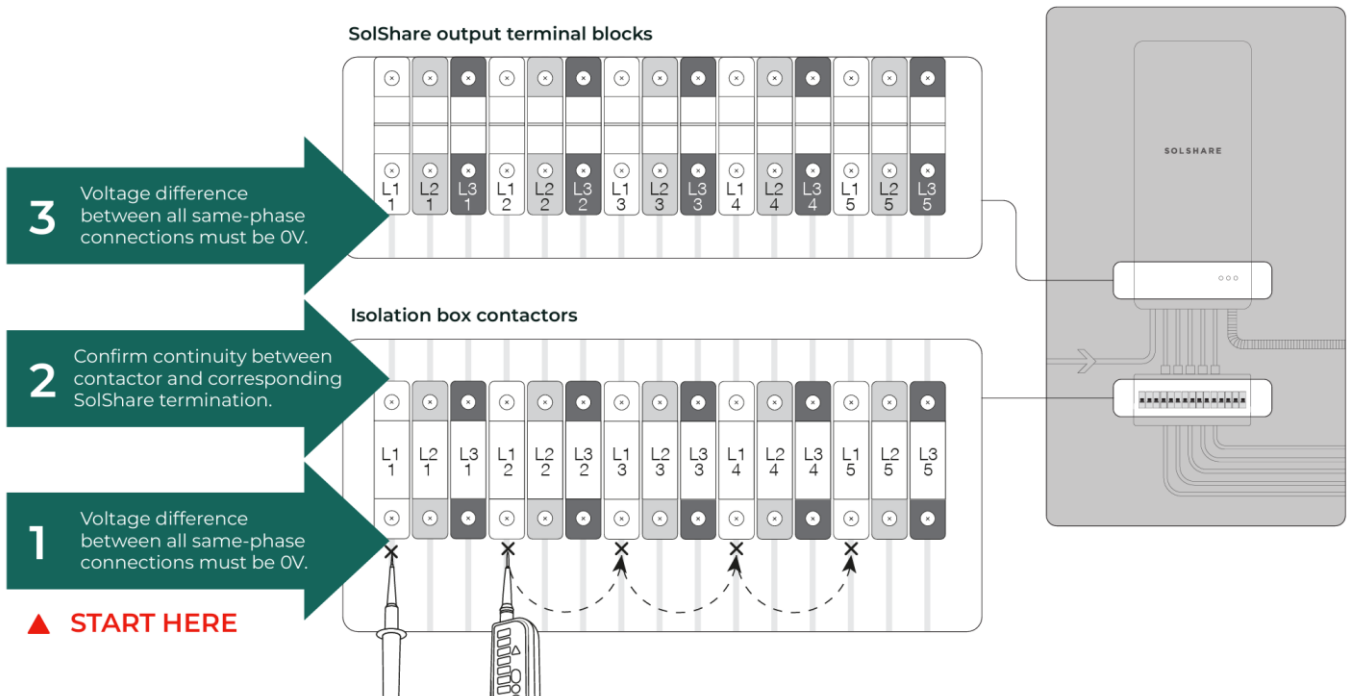

Figure 7. Phase-to-phase Checks
- Carry out a phase-to-phase (as shown in Figure 7) and phase-to-neutral check on all connections to ensure the wiring has been completed in the right sequence.